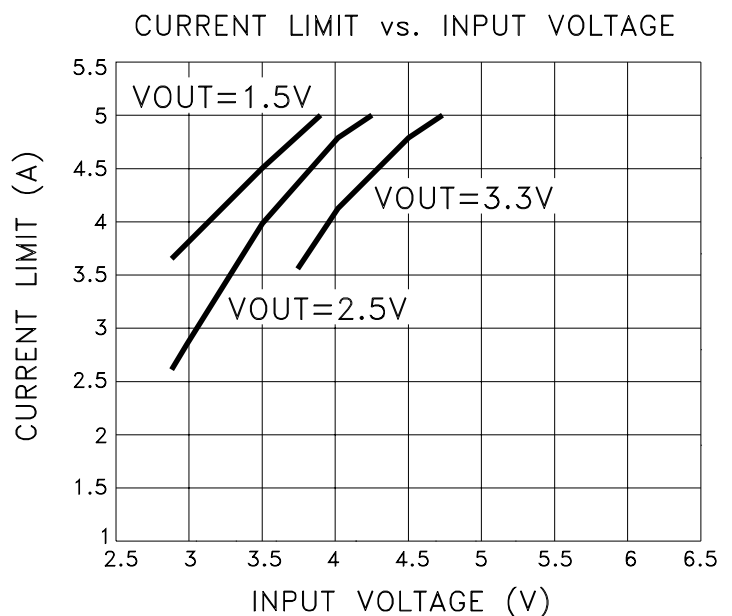

FIGURE 1
- ⑦ Output current limit is dependent upon the values of VIN and VOUT. See Figure 1 and typical performance curves.
- ⑧ Continuous operation at or above absolute maximum ratings may adversely effect the device performance and/or life cycle.
- ⑨ VIN shall be as specified or VIN Min, whichever is greater.
- ⑩ Not applicable when VOUT < VIN Min dropout voltage maximum.
- ⑪ Consult factory for post radiation limits.
The MSK 5921RH current limit function is directly affected by the input and output voltages. Figure 1 illustrates the relationship between VIN and ICL for various output voltages. It is very important for the user to consult the SOA curve when using input voltages which result in current limit conditions beyond 4.5 Amps. When using input voltages which result in current limit above 4.5 Amps, the user must maintain output current within the SOA curve to avoid damage to the device. Note that 5 Amp maximum is due to current carrying capability of the internal wirebonds.